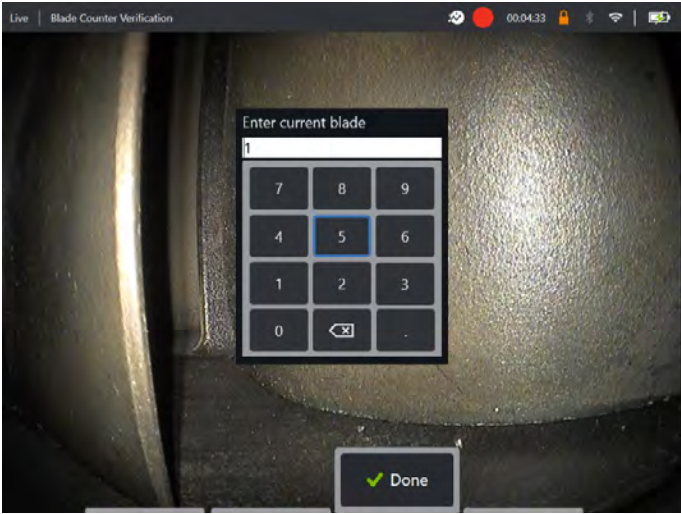

Figure 8b. 'Enter current blade' prompt
- Enter the blade number upon which the inspection begins (Figure 8b).